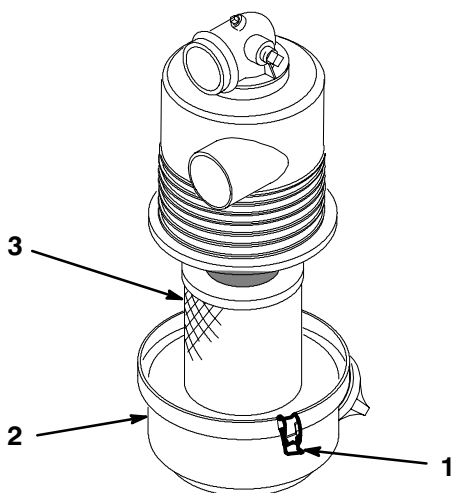

Figure 27
3. Release latches securing air cleaner cover to air cleaner body. Separate cover from body. Clean inside of air cleaner cover (Fig. 27).
4. Gently slide filter out of air cleaner body to reduce the amount of dust dislodged (Fig. 27). Avoid knocking filter against air cleaner body.